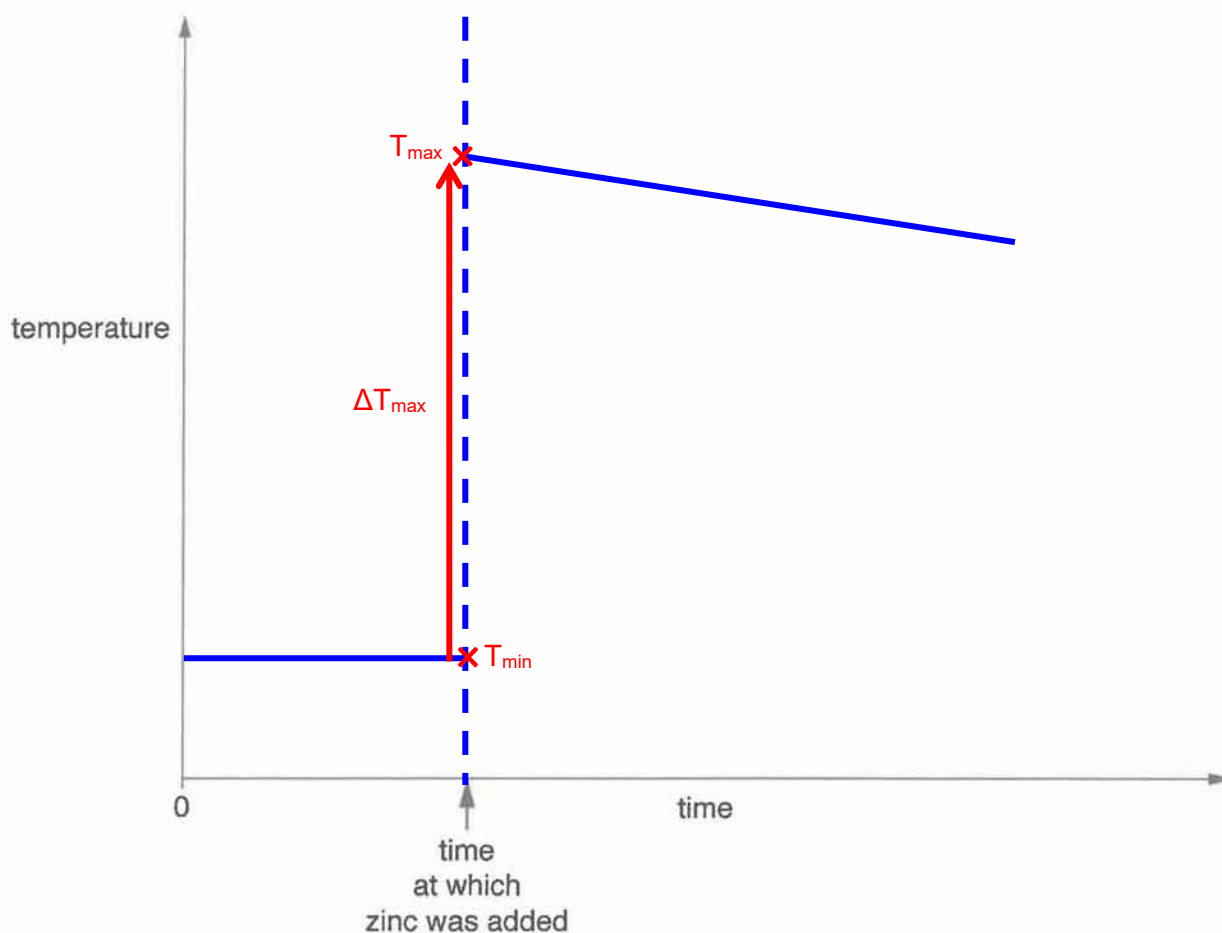

Fig. 4.1
- (b) (i) Sketch, on Fig. 4.1, the graph you would expect to obtain using the measurements you planned to make in 4(a).